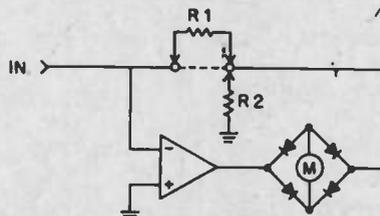

Fig. 8. Current multiplication means greater overall meter sensitivity.
**More Current Facts.** Figure 8 presents a "zero drop" AC current meter. In this circuit, the op-amp supplies enough current to the meter to keep its inverting input at the exact same potential as its non-inverting input. By keeping these two terminals at the same potential, they are, in effect, shorted together!
Current multiplication is easily accomplished by adding resistors as shown in Fig. 8. This scheme will allow much smaller currents to be measured than the full-scale value of the meter. In this circuit, the current through the meter is greater by the rates ( $R1/R2$ ) than the current being measured. These resistors directly control the gain of the op-amp so it can be set to any fixed amount of gain; 10 would allow a 1 mA meter movement to measure 0.1 mA full scale.
Fig. 8. A view of a mother crystal showing X, Y, and Z axes. Crystal is sliced into blanks, ground to frequency, polished and plated (on facing sides) to make permanent electrodes. All crystals are not made perfect by Mother Nature and must be examined optically before being sliced.
The crystal plate is known as a *blank* when it is sliced from the raw crystal. The blank is cut at a precise angle with respect to the optical and electrical axes of the raw crystal, as shown in Fig. 8. Each has its own characteristics for use in specific applications. Some, notably the X- and Y- cuts, are of only historic interest. The Y- cut, one of the first types used, had a bad habit of jumping in frequency at critical temperatures. The X- cut did not jump, but still varied widely in frequency as temperature changed.